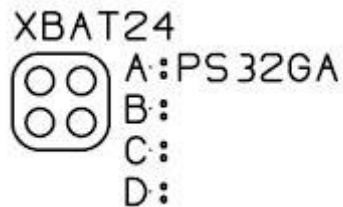

Figure 2: XBAT24 connector before wire is removed
3. Disconnect the wire labelled “14PS32GA” from cavity A of the XBAT24 shear, as shown in Fig 2.